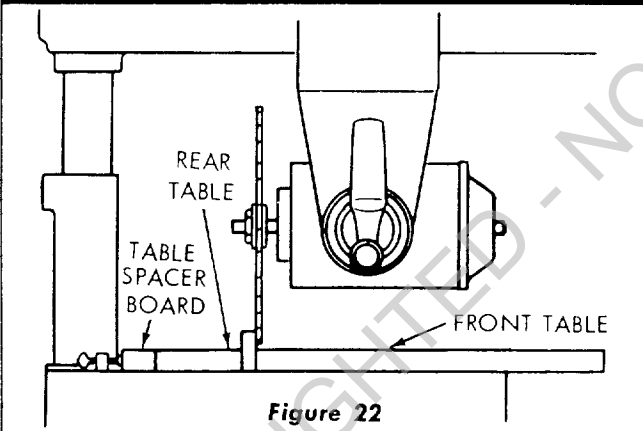

Figure 22
Move the motor along the radial arm until the blade, when spun by hand, just touches the front face of the fence (see figure 22). The rip-scale indicator (4, figure 24) on the right-hand side of radial arm should now read 0-inches. If not, shift the position of the indicator to read 0-inches.
**NOTE:** With the saw blade and fence in the position shown in figure 22, the upper portion of the "In-Rip" scale is used. If the fence is moved to the extreme rear position, the lower portion of the "In-Rip" scale is used.